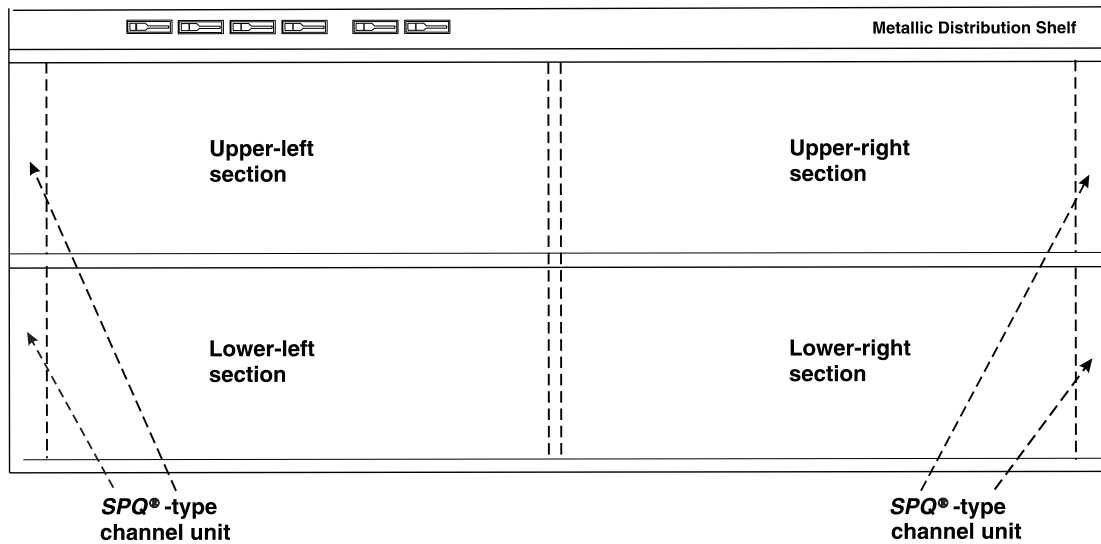

Figure 1 – MDS Assembly Sections
5. Select the lower-left section of the MDS assembly to begin testing (Figure 1). ***(You will be testing the MDS assembly sections one section at a time.)***